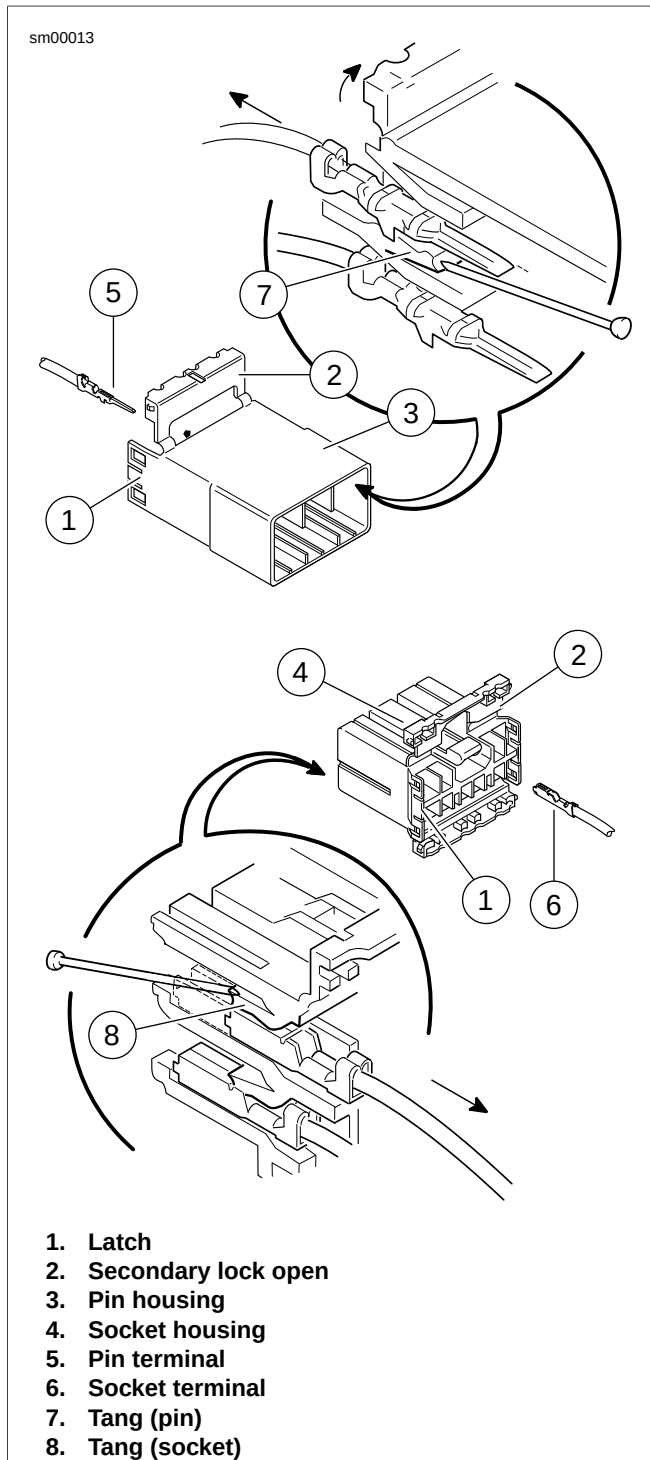
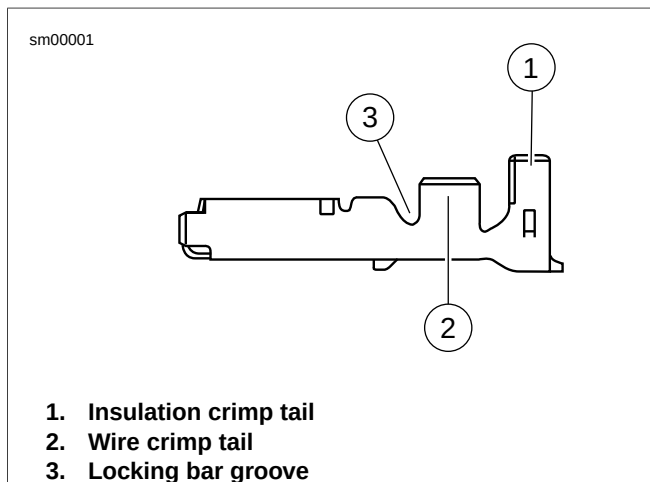

Figure A-4. AMP Multilock Connector: Socket and Pin Housings
Figure A-7. AMP Multilock Connector: Socket Terminal
1. See Figure A-4. Bend back the latch (1) to free one end of secondary lock (2) then repeat on the opposite end. Hinge the secondary lock outward.
- See Figure A-4 and Figure A-7. Select the pin/socket terminals from the parts catalog and identify the insulation crimp tails (1) and the wire crimp tails (2) and the groove for the crimp tool locking bar (3).
See Figure A-4 and Figure A-7. Hold the terminal with the insulation crimp tail (1) facing up. The tool will hold the terminal by the locking bar groove (3) and crimp the wire crimp tail (2) around the bare wire of the stripped lead and the insulation crimp tail around the insulation.